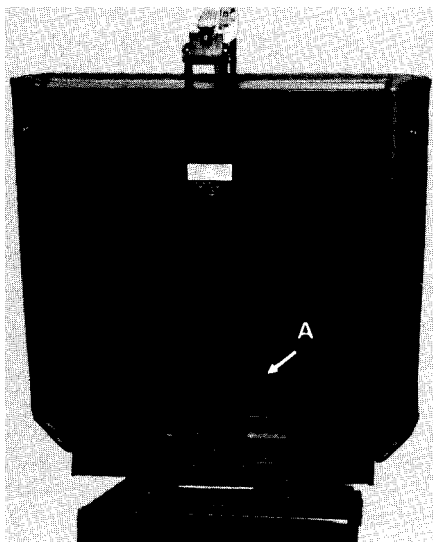

Fig. 17
- 3) Remove cover on back of back section by removing (4) small screws, (Item A, Fig. 17).
- 4) With the back raising cylinder extended, remove cover on back of back section by removing (4) small screws, (Item A, Fig. 17).